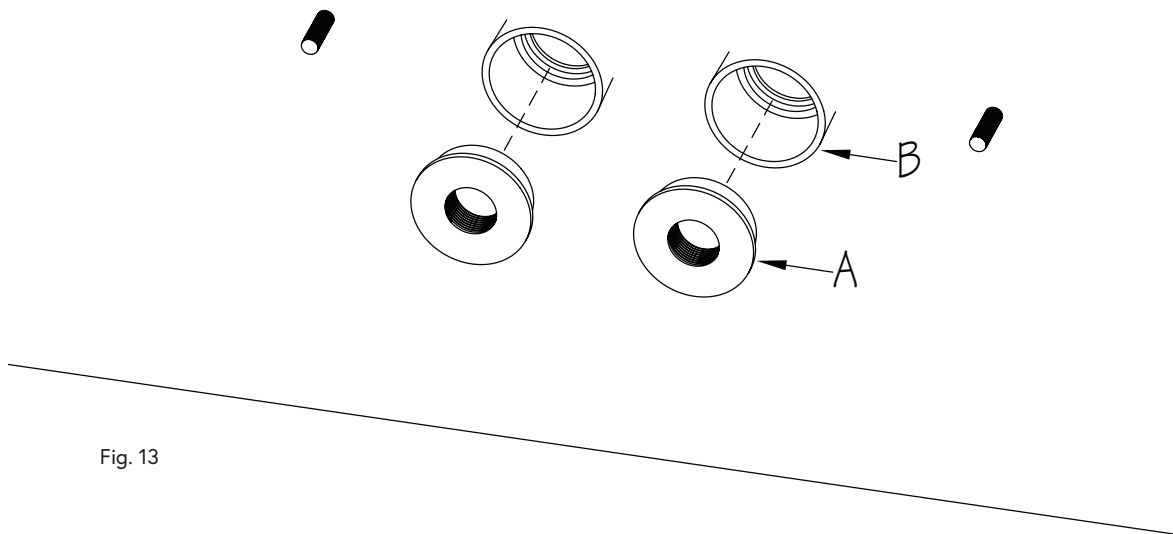

Fig. 13
5. Glue the Bushing Reducers (A) into the Couplings (B) (Fig. 13).